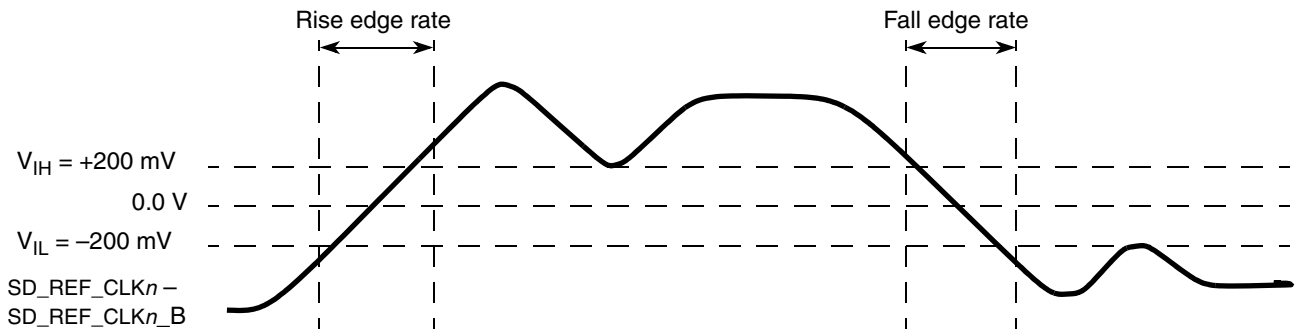

Figure 34. Differential Measurement Points for Rise and Fall Time
The differential waveform is constructed by subtracting the inverting signal (SD_TX_n_B, for example) from the non-inverting signal (SD_TX_n, for example) within a differential pair. There is only one signal trace curve in a differential waveform. The voltage represented in the differential waveform is not referenced to ground. See Figure 34 as an example for differential waveform.
- Measured from -200 mV to +200 mV on the differential waveform (derived from SD_REF_CLKn minus SD_REF_CLKn_B). The signal must be monotonic through the measurement region for rise and fall time. The 400 mV measurement window is centered on the differential zero crossing. See Figure 34.